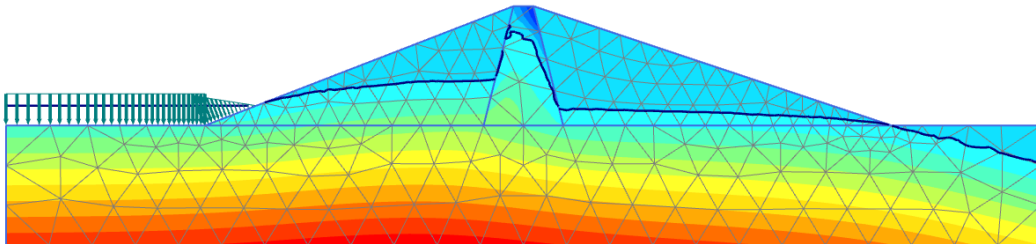

Figure 14–17: Pore pressure distribution, (p_{active}), after slow drawdown
- The steady-state situation with a low reservoir level is shown in Figure 14–18 \(p. 230\).